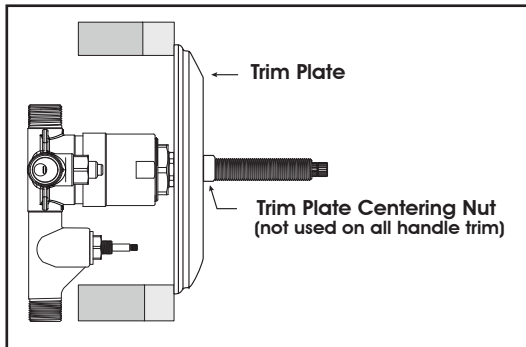

FIG. 4a
1. Install extended stem and all thread onto cartridge stem. Fully seat stem onto cartridge by tightly securing all thread nipple and locking nut onto valve. Install plate and centering nut. FIG 4a.